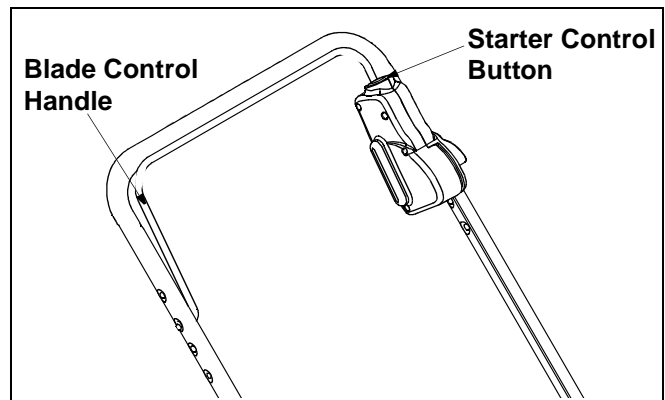

Figure 10
7. Turn safety key 1/4 turn clockwise to RUN position.
10. Using your left hand, pull the blade control handle all the way toward the upper handle. See Figure 10.
3. Turn safety key 1/4 turn clockwise to RUN position.
6. Using your left hand, pull the blade control handle all the way toward the upper handle. See Figure 10. Starter will de-energize and engine will start. (NOTE: If engine does not start, release the blade control handle and follow steps 8, 9, 10, 11 and 12 in the "First Time Starting Engine" instructions.)